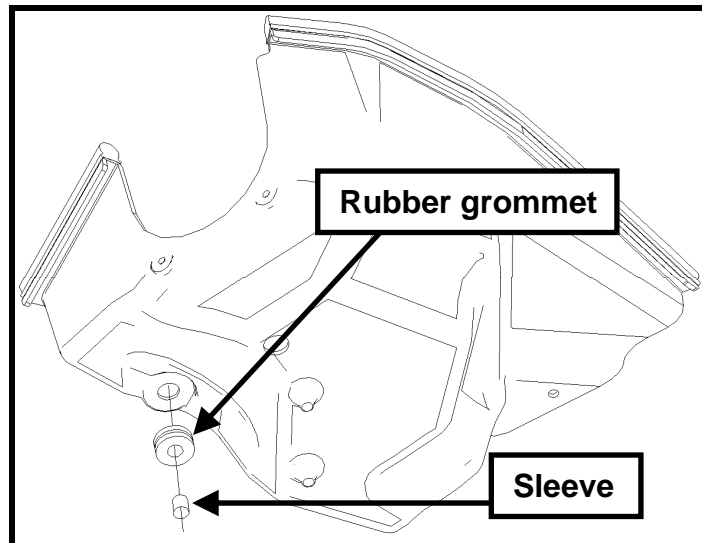

Fig. 31
**NOTE:** Remove the metal sleeve to ease grommet insertion into the airbox. Once the rubber grommet is firmly seated in position, re-install the metal sleeve into the grommet (See Fig. 31).